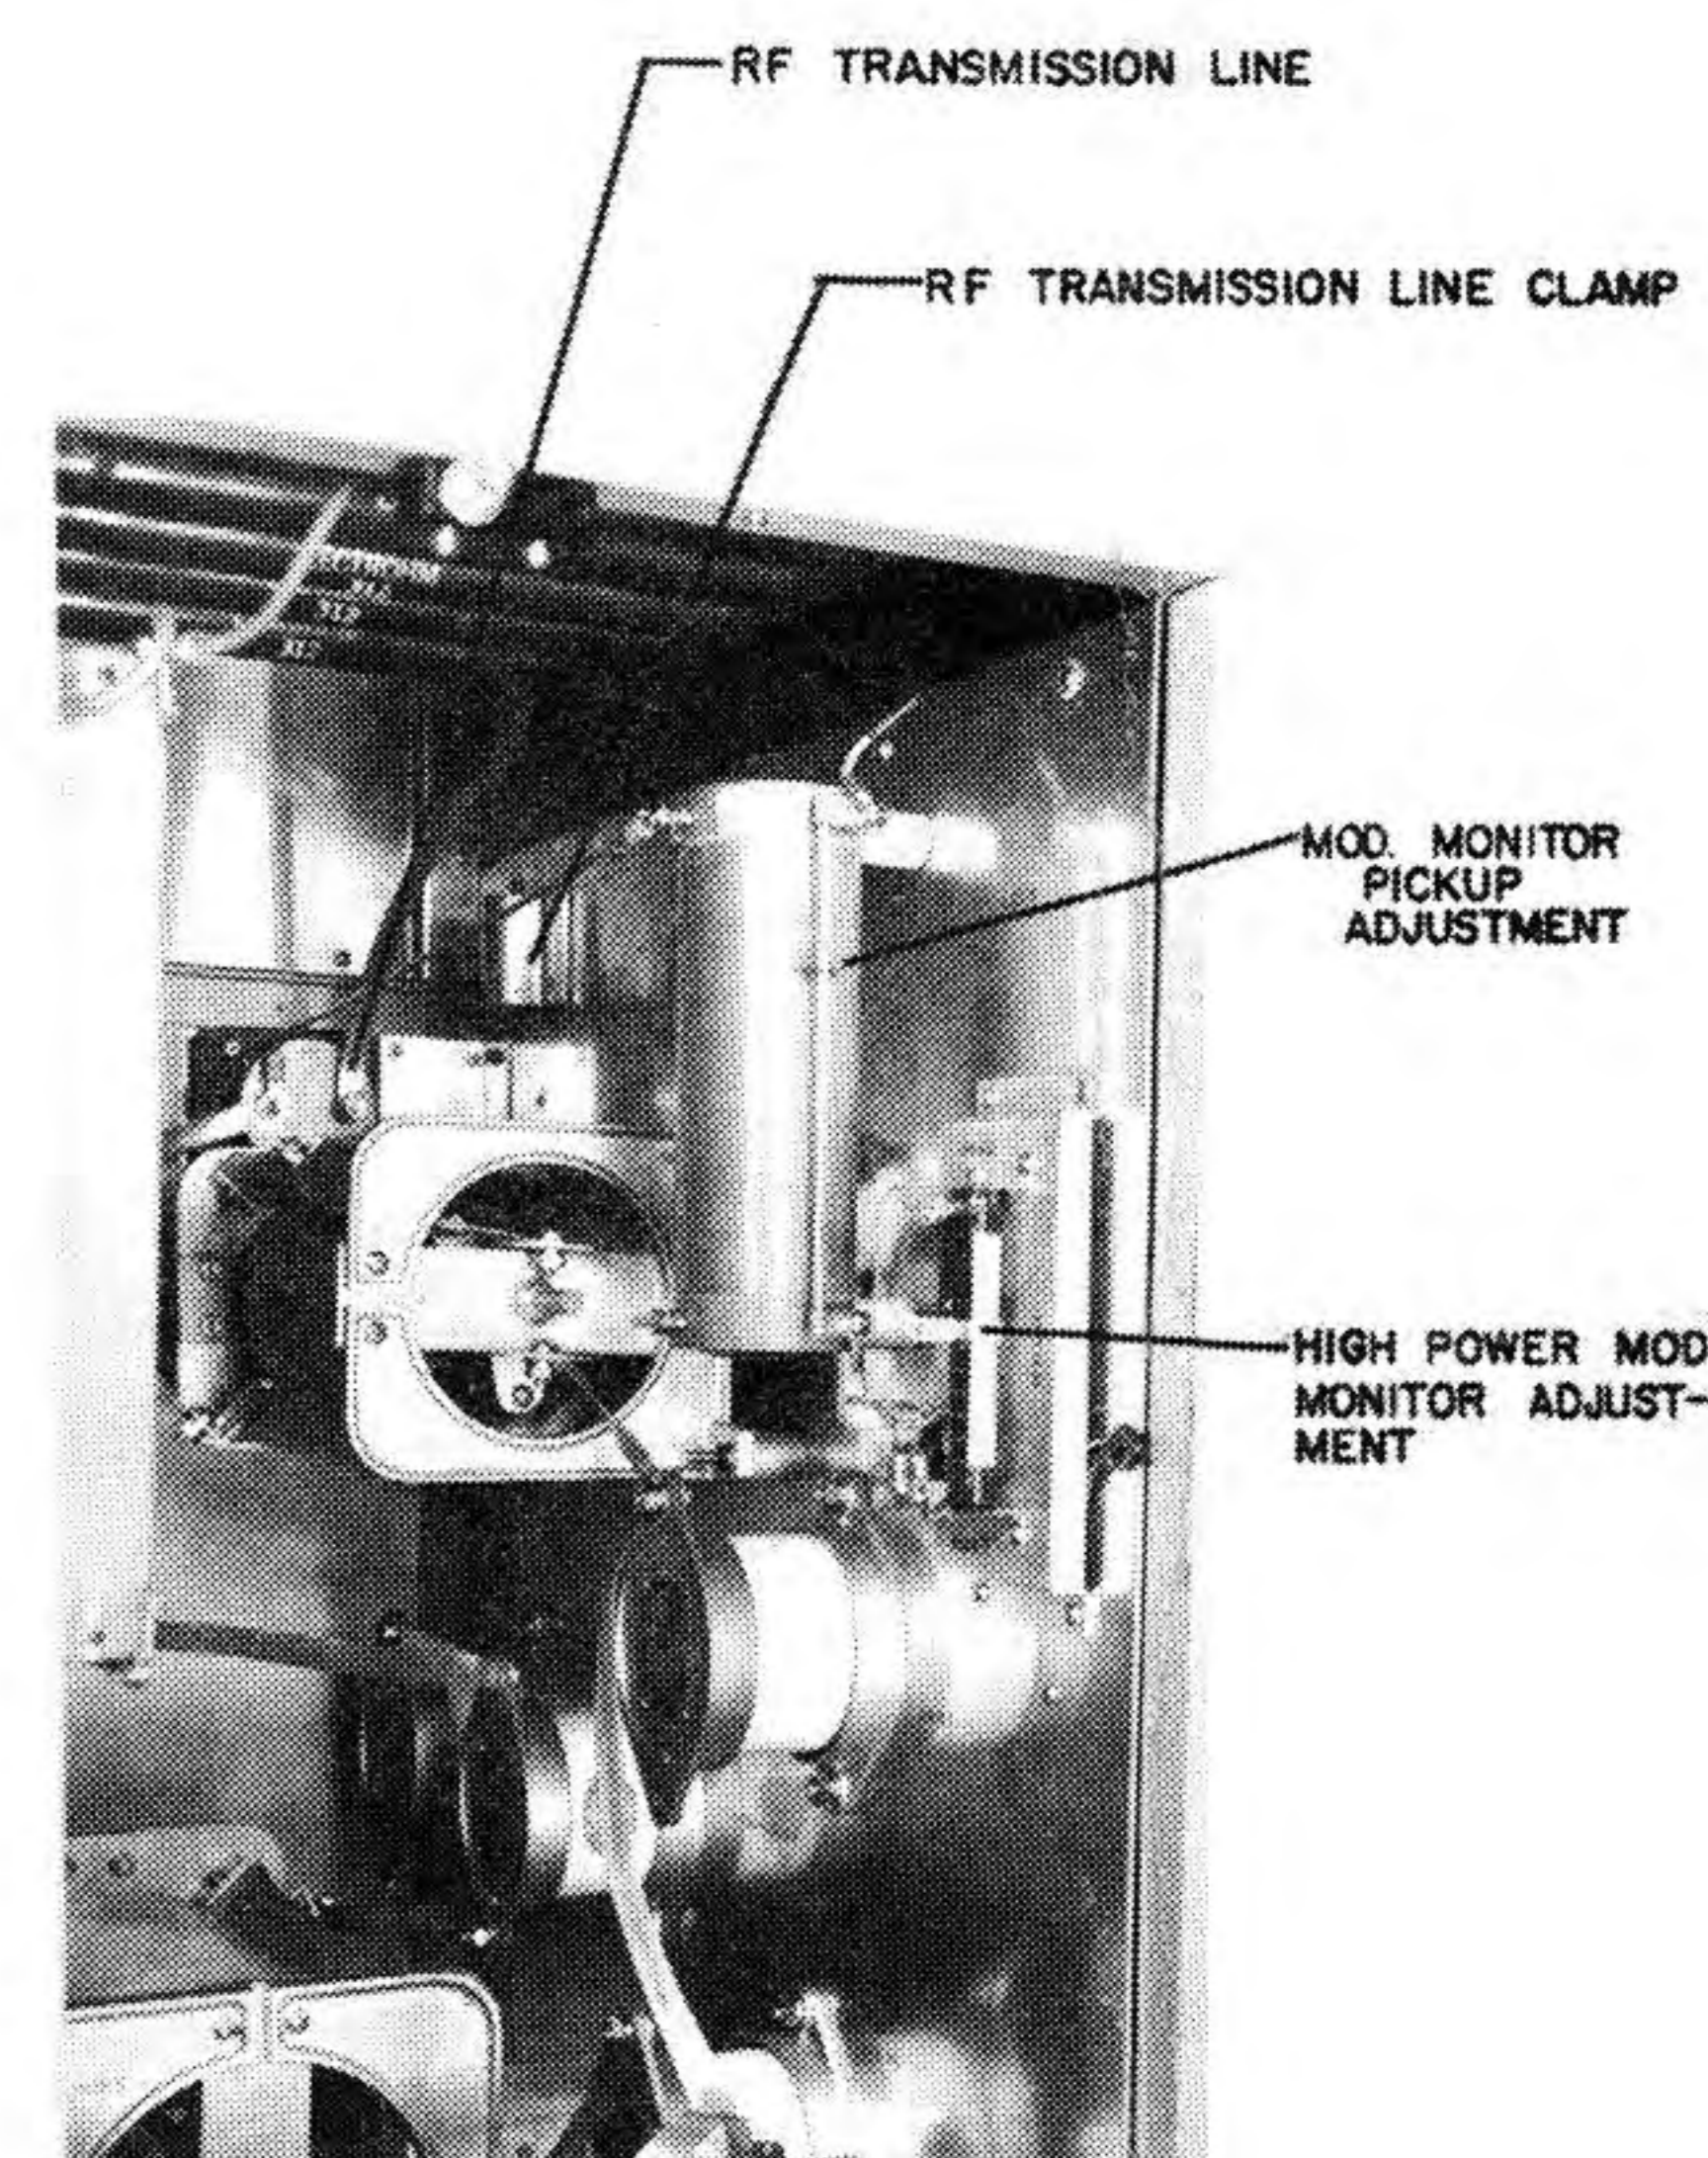

FIG. 6
When you place the transmitter on the air, the dummy antenna is disconnected from the R.F. line meter and the center conductor of the coaxial cable is connected to the R.F. line meter (see Page 4, Fig. 6). However, do not make this connection at this time as we will test on the inbuilt dummy antenna.
2. Set modulation monitor pickup coil for correct R. F. drive to the modulation monitor. See Fig. 6, Page 4.